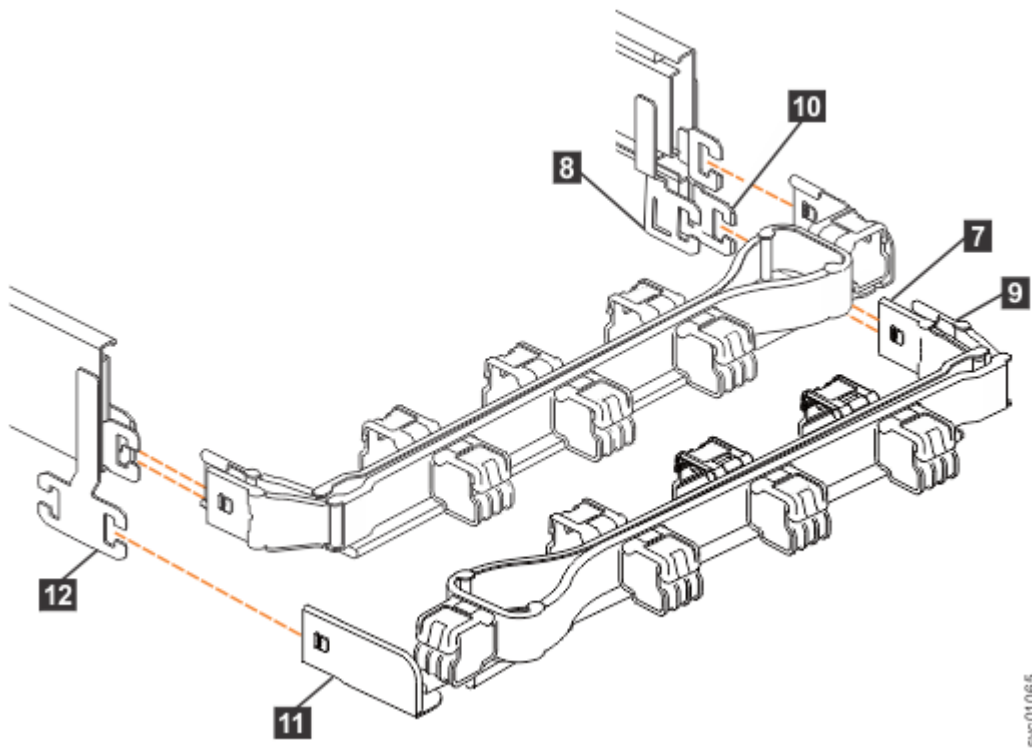

Figure 55. Comparing the location of the components of the CMA assemblies
Note: The procedure for attaching the lower CMA assembly is the same as the procedure to attach the upper CMA assembly. However, the connector locations are reversed. For comparison, Figure 55 on page 57 shows the upper and lower CMA assemblies as they are aligned to the support rails. The support rail connector of the upper CMA attaches to the right rail. The support rail connector of the lower CMA (11) attaches to the left rail.
5. Install the inner connector of the lower CMA assembly (7) to the inner member of the right support rail (8), as shown in Figure 55 on page 57).
6. Install the outer connector of the lower CMA assembly (9) to the outer member of the right support rail (10), as shown in Figure 55 on page 57.
7. Attach the support rail connector on the lower CMA assembly (11) to the connector on the left support rail (12), as shown in Figure 55 on page 57.